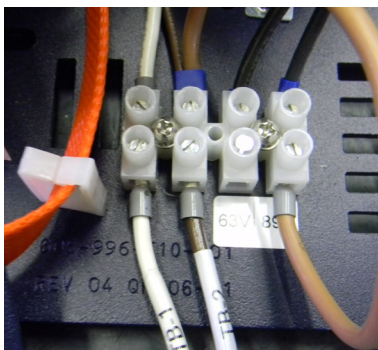

Fig. 1-8, Output Voltage Terminal Block
3. Remove the output voltage wires from the terminal block, see Fig. 1-8.
11. Connect the dual output voltage wires to the output voltage terminal block as shown, see Fig. 1-8. Torque terminal block screws to 7in-lbs (0.79N-m).